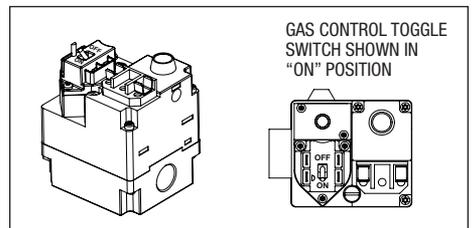

Figure 27. Gas valve.
5. Switch the gas valve toggle switch to ON. See Figure 27.